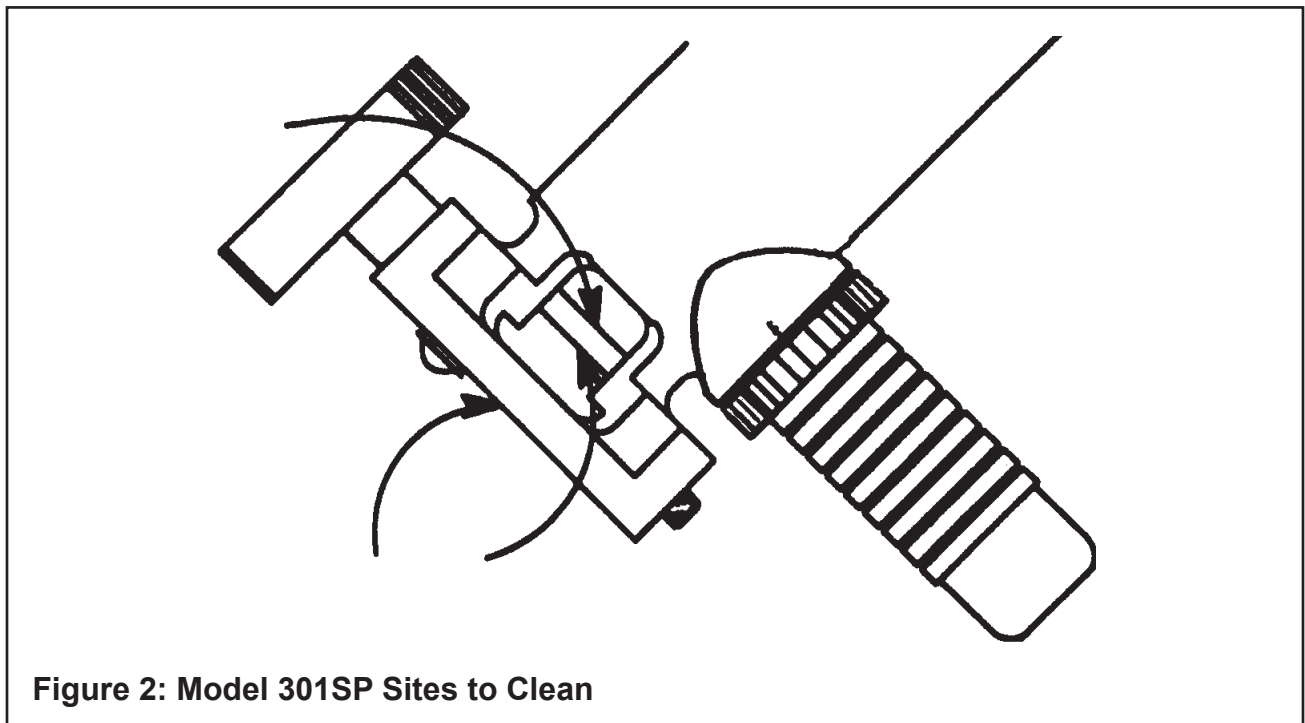

Figure 2: Model 301SP Sites to Clean
- Clean all components (refer to Fig. 2).